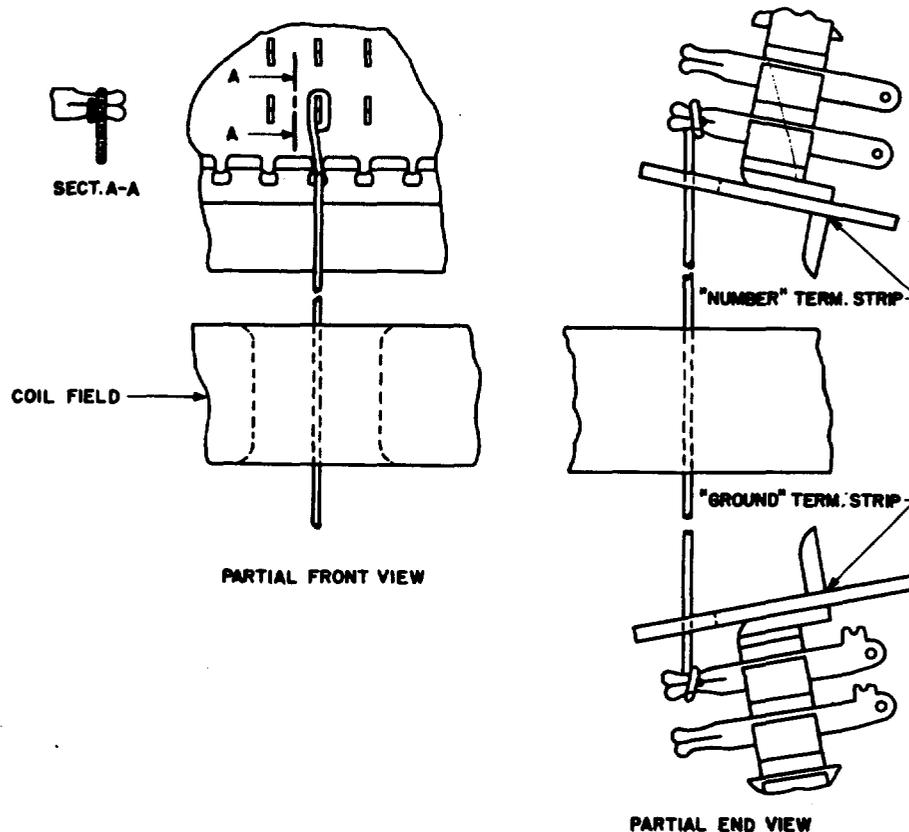

FIG. 1 - METHOD OF CONNECTING WIRE TO
3.03 Pull the insulated portion of the wire around the terminal, and make a full wrap as shown in Fig. 1.